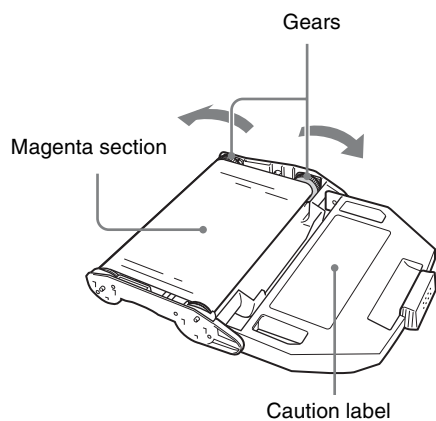

Figure 3.7
- 6** Turn the gears in the arrow direction until the magenta section of the ink ribbon appears all over to remove slack from the ink ribbon (see Figure 3.7).